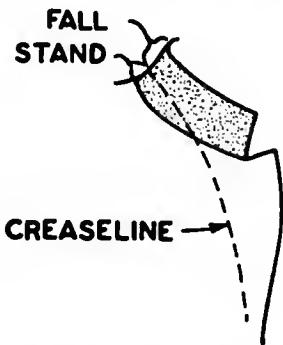

Fig. 190. Checking the creaseline marking.
- At the center back check to see that the fall is deeper than the stand. The fall is a minimum of  $\frac{3}{8}$  in. wider than the stand (Fig. 190).
- Check the creaseline markings. The front end of the breakline may be located by matching it to the breakline in the lapel (Fig. 190).